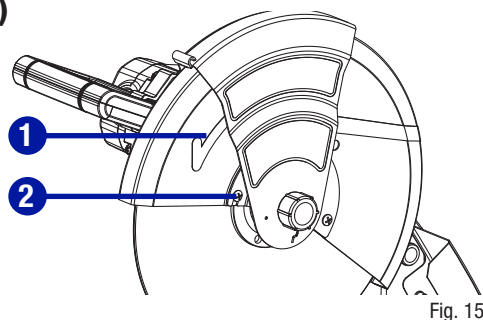
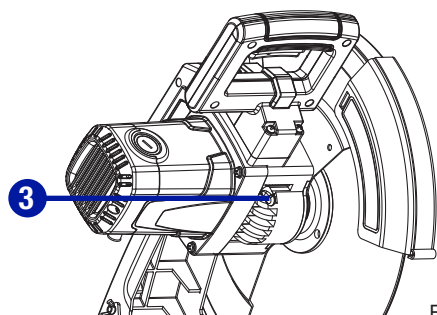

Fig. 15
Fig. 16
- Rotate the lower wheel guard (1) upward until you expose the cross-screw (2). (Fig. 15)
- Loosen the cross-screw (2) but do not remove it. Continue to rotate the lower wheel guard (1) until it will stay in the back position.
- Press and hold the spindle lock button (3) to the right while rotating the abrasive wheel by hand. (Fig. 16)